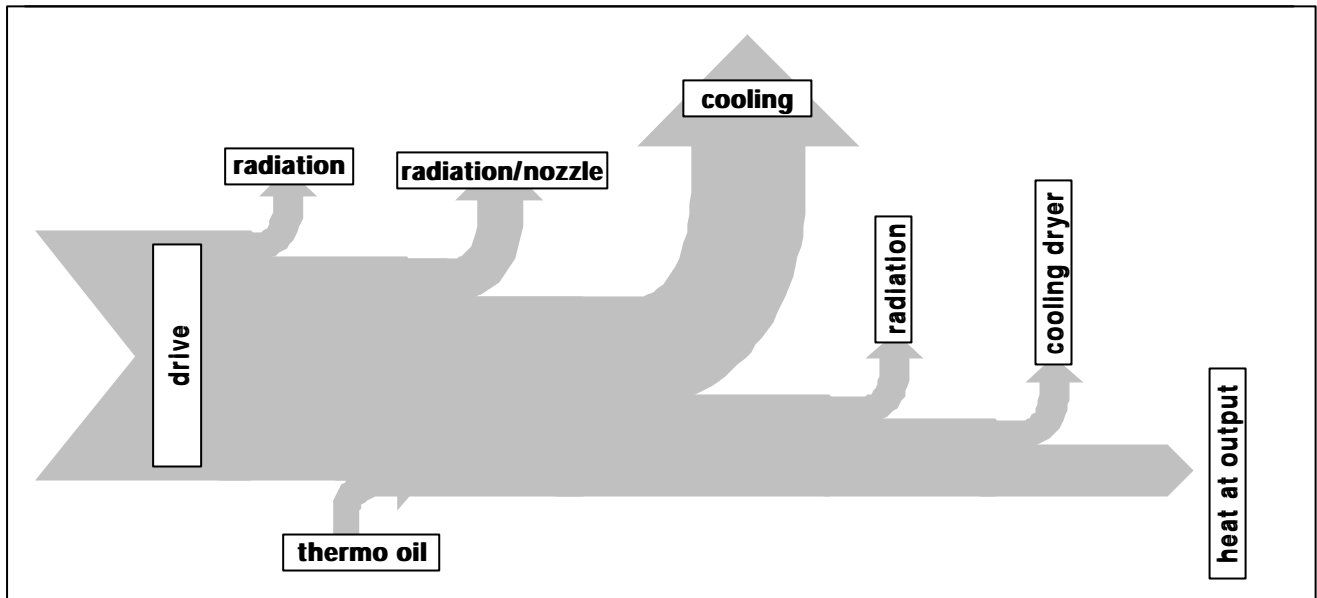

Figure 5: energy flow chart of a plastic production process
- To fill up the system the compressor needs a certain amount of electricity (measure or calculate). This amount of electricity is lost every two hours (see figure 5: system is emptied within 2 hrs).